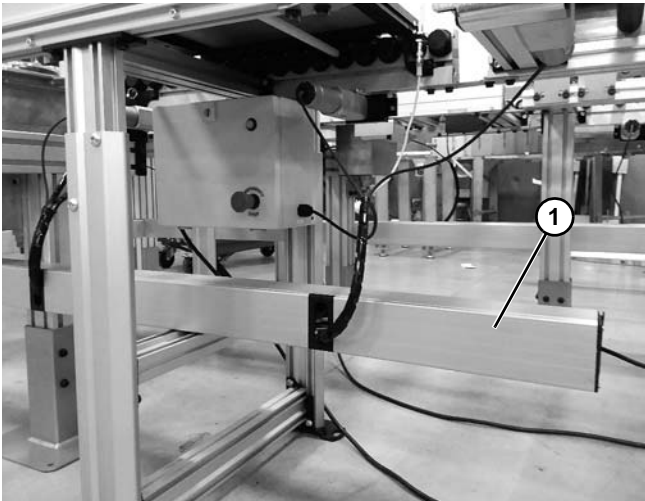

Figure 1
1. Determine motor control enclosure (**Figure 1, item 1**) location.